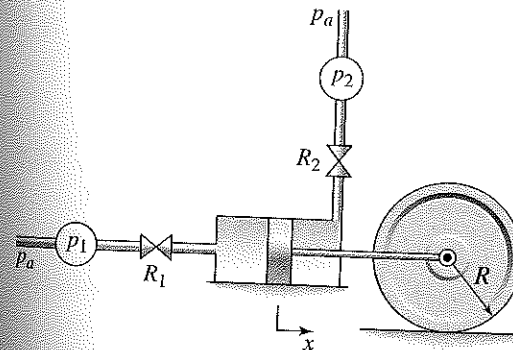

Figure P7.28
- 7.28 In Figure P7.28 the piston of area  $A$  is connected to the axle of the cylinder of radius  $R$ , mass  $m$ , and inertia  $I$  about its center. Develop a dynamic model of the axle's translation  $x$ , with the pressures  $p_1$  and  $p_2$  as the inputs.